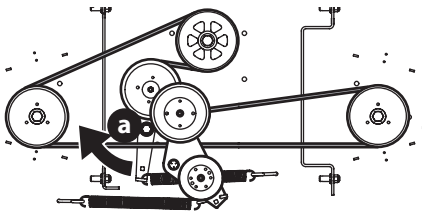

Fig. 62
- Using a 1/2" drive insert the end into the 1/2" square opening in the deck idler assembly (a) and rotate the deck idler assembly (a) clockwise (Fig. 62). While holding the deck idler assembly (a), loosen the deck belt from the pulley and slide the belt away from the pulley.
- Route the new belt (Fig. 62). Then reinstall the deck and PTO belt.